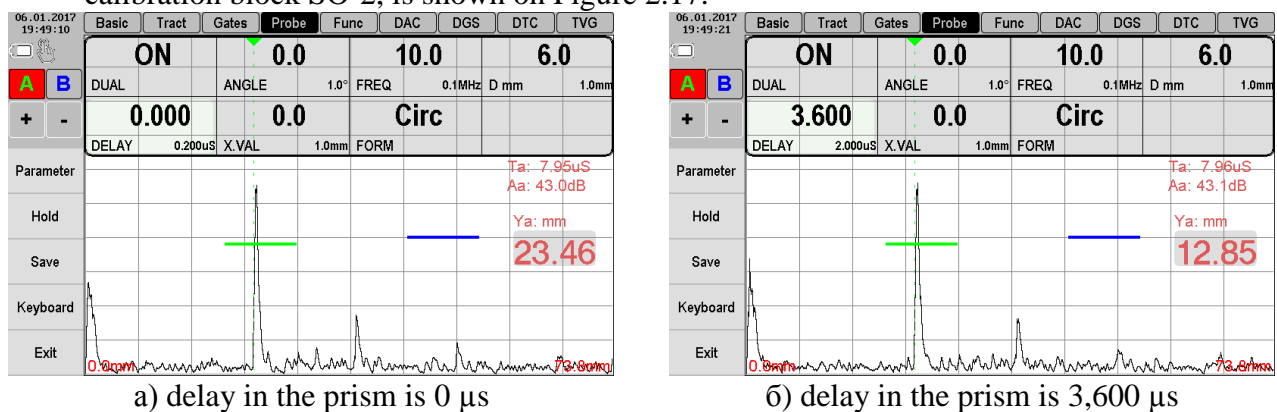

Figure 2.17 – Setting delay in the probe prism - «DELAY» parameter
3. Delay in the prism of the probe «DELAY» (delay value in  $\mu\text{s}$ ). While using the probe, delay can change due to scuffing of the prism. Delay could be determined by standard calibration blocks (see paragraph about calibration 2.5.1 or 2.5.2). Delay determination, using the calibration block SO-2, is shown on Figure 2.17.